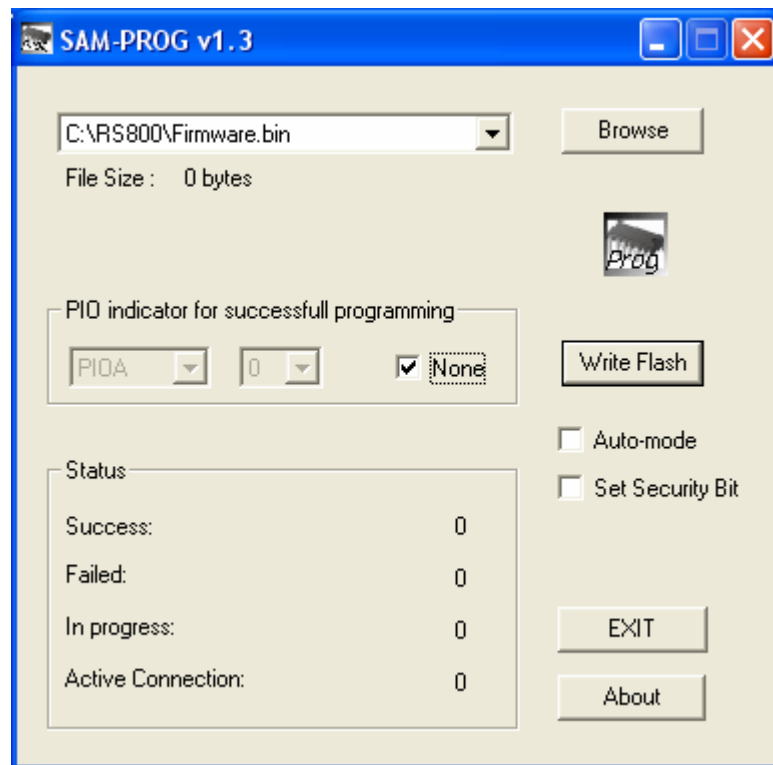

Fig. 46
Step 13: Turn **ON** the tester and the “Write Flash” button will be clickable. You should see the window shown below: (Fig. 46)